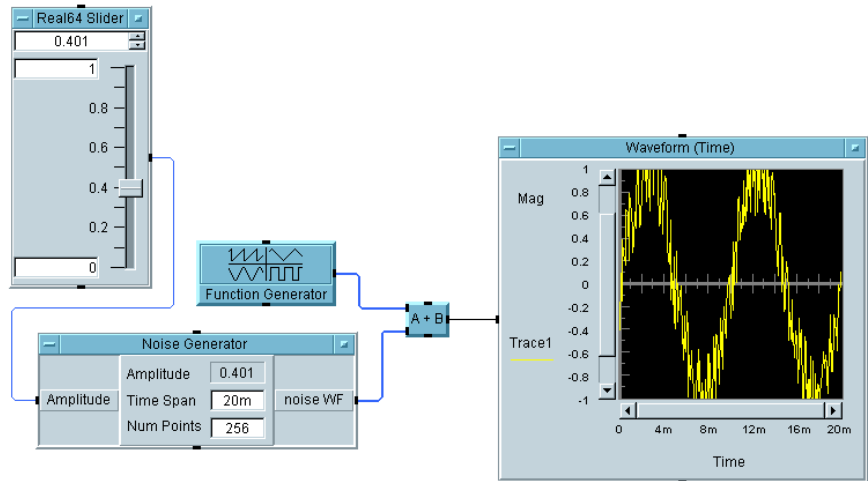

Figure 1-38. Example: Adding a Real64 Slider Object
3. Add a Real64 Slider object (Data $\Rightarrow$ Continuous $\Rightarrow$ Real64 Slider) and connect its data output pin to the Amplitude terminal, as shown in Figure 1-38. Run the program.